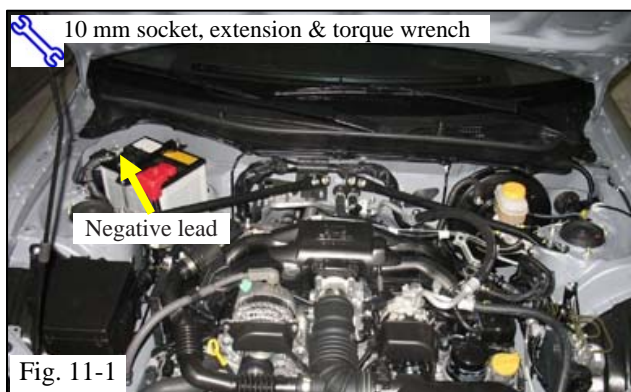

Fig. 11-1
- (a) Reconnect the battery negative cable (Fig. 11-1).